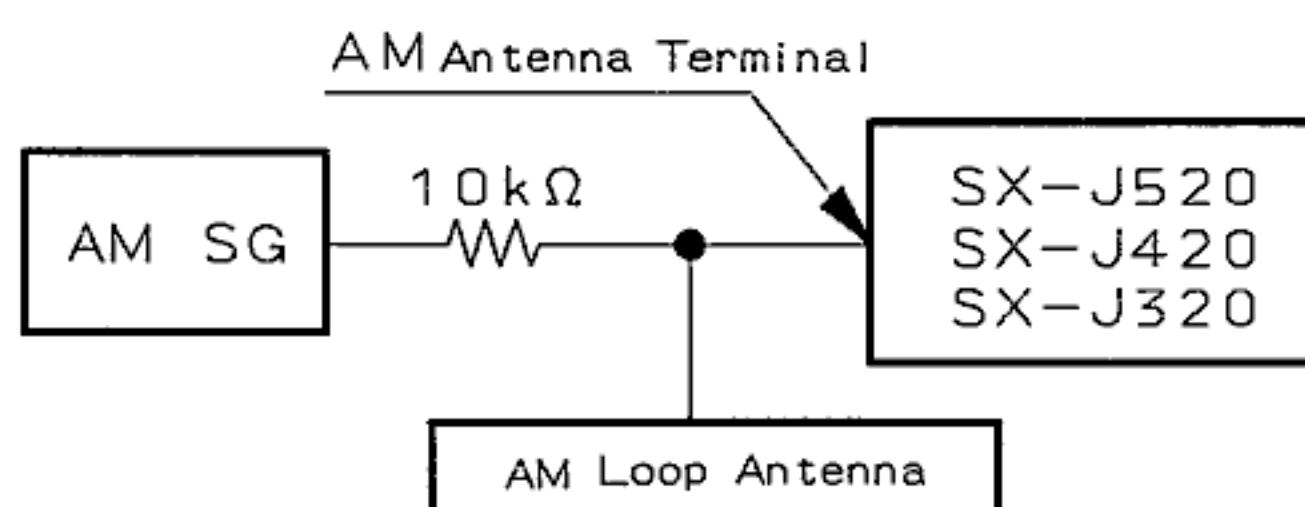

Fig. 4-1-2 AM (MW) Adjustment Connection Diagram
- Connect the wiring as shown in Fig. 4-1-2.